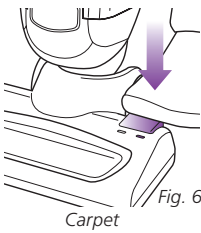

Fig. 6
- 2 To begin vacuuming, step on the foot pedal and the carpet light on the vacuum nozzle will be solid blue. (Fig. 6) Place your foot lightly on the top of the vacuum nozzle and tilt the handle back to begin vacuuming.